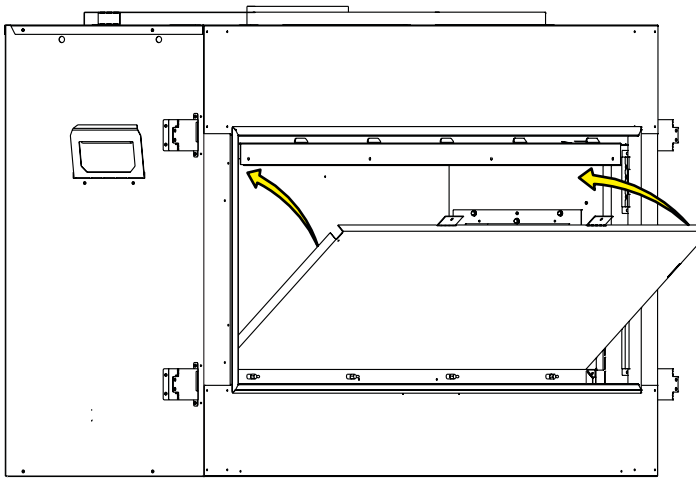
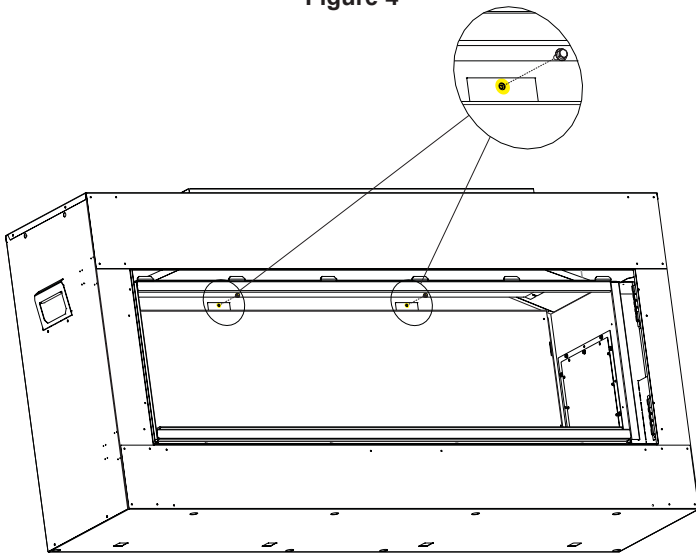

Figure 4
Figure 5
- Once the tabs are inserted into the slots, rotate the Rear Panel upward against the back of the firebox. **See Figure 4.** Re-install the two previously removed screws (step 6) through the top tabs of the Rear Panel to secure. **See Figure 5.**